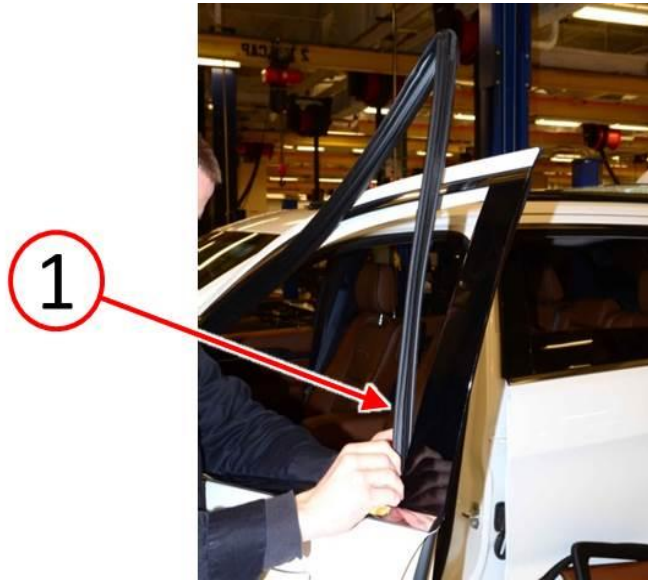

Fig. 8 Install Rear Leg Of Door Glass Run Seal
6. Continue with the NEW door glass run seal (1) installation by inserting the seal rear leg (1) into the rearward door glass run channel (Fig. 8).